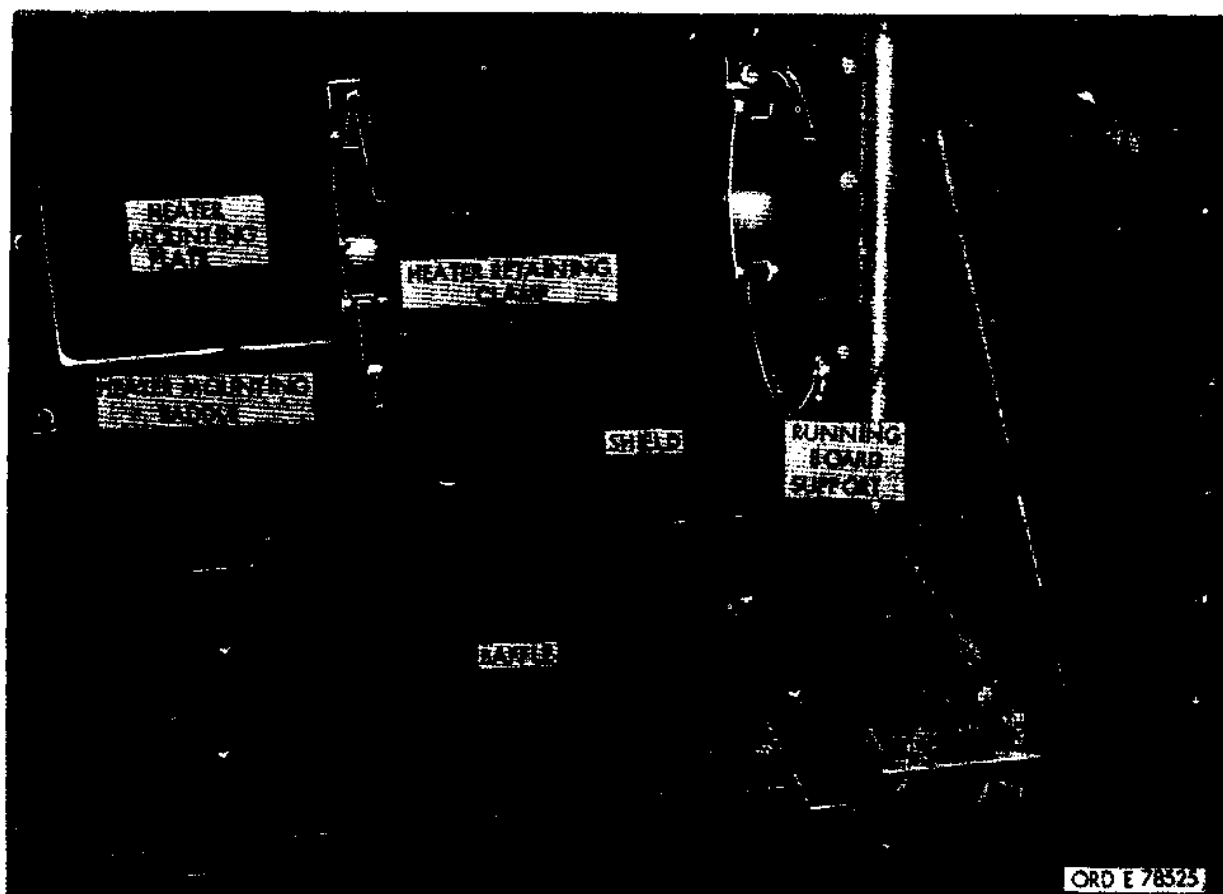

Figure 698. Installation of heater mounting plate and clamps.
- (6) Using shield placed above as a template, locate two shield mounting holes on running board supports. Remove shield.
- (7) Center punch and drill two 9/32 dia. holes located in (6) above. Prime and paint bare metal.
- (8) Fasten shield to supports using two 1/4-28x5/8 screws, MS 96906-35292-5 and two locking nuts, MS 96906-51922-5.
- (9) Attach heater mounting saddles 10896477 to heater mounting plate, using 3/8-24x5/8 screws, MS 96906-35292-57 and internal-external tooth washers, MS 96906-35335-21 (fig. 698).